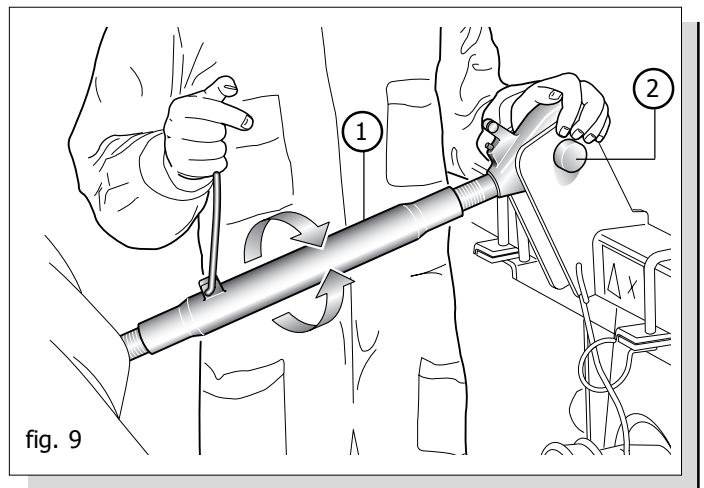
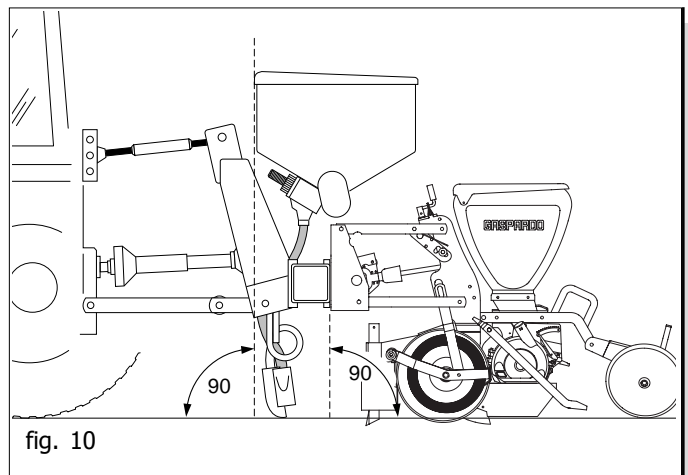

fig. 9
fig. 10
- 3) Connect the third upper point (2 Fig. 8-9); the pin will be blocked with the appropriate split pin; use the adjusting tierod (1 Fig. 9) to keep the seeder perpendicular to the ground (Fig. 10)